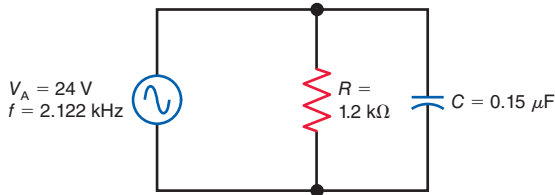

Figure 17-18
- 17.19** In Fig. 17-18, solve for X_C , I_R , I_C , I_T , Z_{EQ} , and θ_I .
- 17.20** In Fig. 17-18, what happens to each of the following quantities if the frequency of the applied voltage increases?